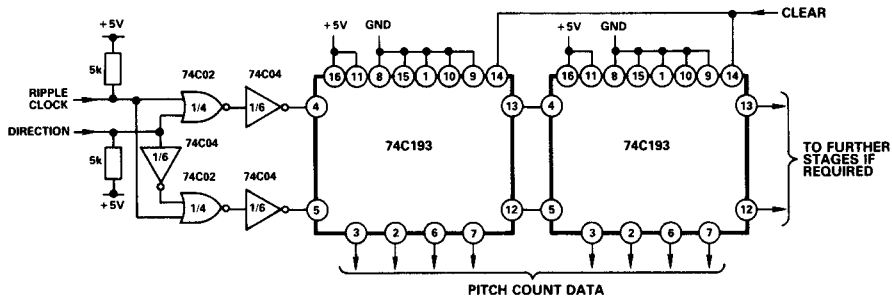

Figure 4. CMOS External Counter
The DIRECTION (DIR) and RIPPLE CLOCK (RC) logic outputs should always be used in the manner shown in the application circuit. We recommend the circuit in Figure 2 to be used as the circuit in Figure 4 uses CMOS and great care must be taken to keep the stray capacitances low because of the high tracking rate of the converter.